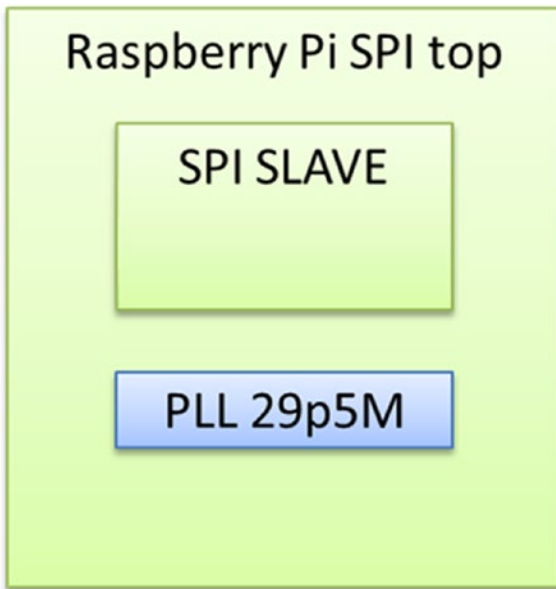

Figure 15-4. Modules needed in this chapter
We are going to create a new project from the BeMax10 template which is from the section “Write Code” in Chapter 4, and it is similar to Chapter 14. This design will have three modules: (1) SPI slave module which is a new design (`spi_slave.vhd`); one Altera PLL IP (`pll_29p5M`), which is the same PLL (phase-locked loop) from Chapter 13; and a new top-level module which is `raspberrypi_spi_top.vhd`. Figure 15-4 shows all the modules needed for this chapter design. We are going to describe how to design the new SPI slave module in this chapter. First we have to define what we need to design in the SPI slave (the requirements) and then we can design it in the next section.